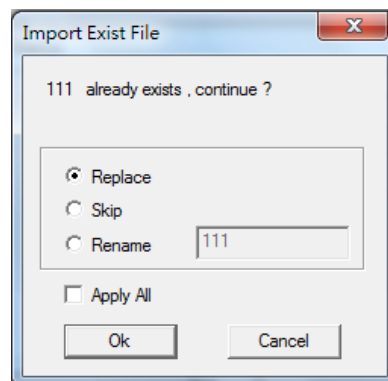

Fig. 1.1.84
3. When a file name is repeated, a dialog box will appear, asking for confirmation to overwrite, ignore, or rename seen as fig. 1.1.84.